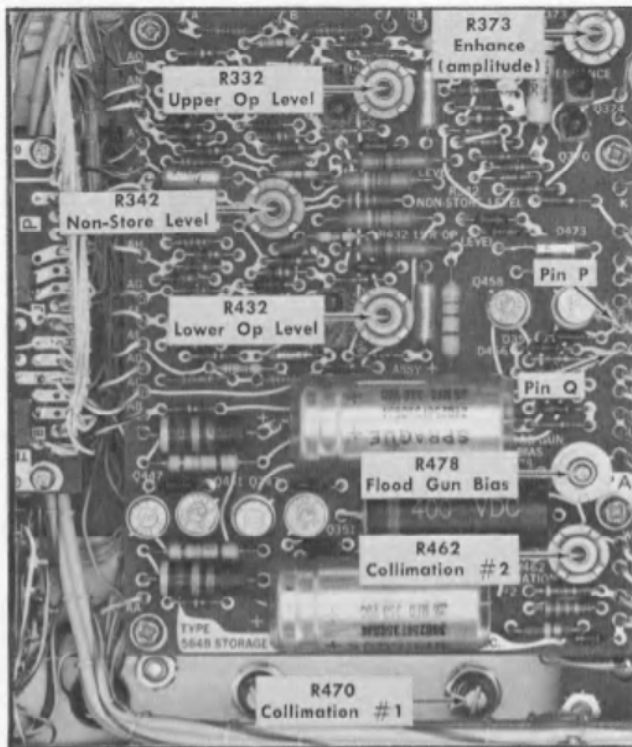
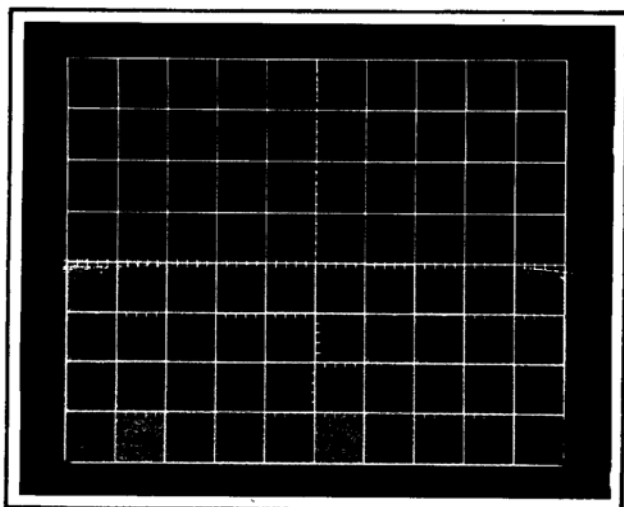

Fig. 5-22. Location of storage controls and test points.
Fig. 5-26. Typical CRT display showing correct adjustment of R342 Non-Store Level.
d. With the screen fully written, rotate R478, Flood Gun Bias (Fig. 5-22), fully counterclockwise. Note the shadows at the corners of the screen (Fig. 5-23A).
- With the screens fully written, rotate R470, Collimation #1 (Fig. 5-22), fully counterclockwise, then clockwise to the point where the screens just begin to brighten.
- Rotate R462, Collimation #2 (Fig. 5-22), fully counterclockwise.
a. Connect a DC voltmeter, set to the 300-volt range, between pin P of the Storage board (see Fig. 5-22) and ground.
c. Rotate R332, upper screen Op Level (Fig. 5-22), fully counterclockwise and note the voltmeter reading. 283.7
h. Connect the DC voltmeter, set to the 300-volt range, between pin Q of the Storage board (see Fig. 5-22) and ground.
j. Rotate R432, lower screen Op Level (Fig. 5-22), fully counterclockwise and note the voltmeter reading.
d. When locating the operating point for each target as outlined in the following steps, connect the DC voltmeter to pin P and adjust Op Level R332 for the upper target, and connect the DC voltmeter to pin Q and adjust Op Level R432 for the lower target. These controls and test points are shown in Fig. 5-22.
b. ADJUST—R342, Non-Store Level (Fig. 5-22), for the best division between the two screens, with no background glow on the upper (non-stored) screen. See Fig. 5-26.
- d. Rotate R373, Enhance (Fig. 5-22), fully counterclockwise.